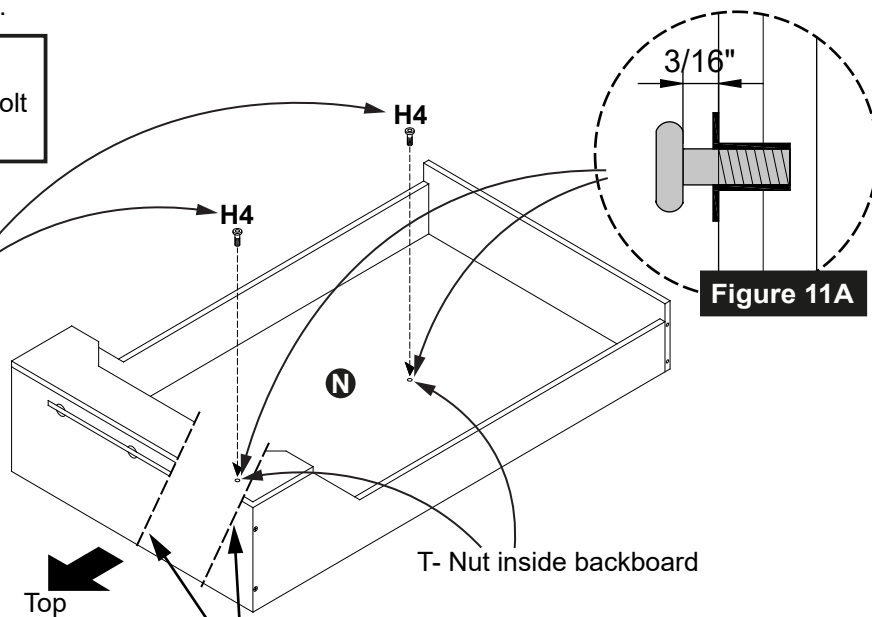

Figure 11
20. Install 2 pcs **H4** Dartboard Hanger Bolts to T- Nuts inside Part **N** Upper Back Panel. See **Figure 11**. **IMPORTANT NOTE:** Screw the bolts till they feel snug and **Do NOT overtighten** them because they will break the back panel block. Recommended install these bolts using fingers only. Do not use Allen Wrench. With this, it will leave the gap approximately 3/16" used to hang the dartboard in the next step. See **Figure 11A**.